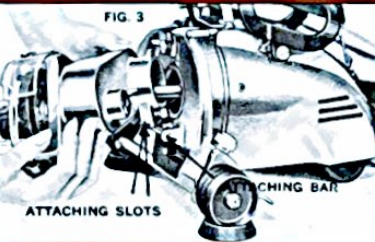

FIG 3
STEP 5: Turn the belt lifter lever to the "ON" position and the unit is ready for operation. Rubber cups, which are provided, should be placed under the front wheels to steady the unit (figure 3). When using the grinding wheel, look through the eye shield part of the transparent grinding wheel cover to help protect your eyes. Safety glasses are recommended when using the wire brush or grinding wheel.
STEP 3. Raise the floodlight hood. Hold the Handi-Butler so the attaching slot is on the attaching bar which is just below the belt drive shaft or motor pulley. (Figure 3) The belt drive shaft should enter
STEP 3: Place attaching slots at back of Rug Nozzle on the attaching bar. (See figures 1 and 2.) Swing nozzle back toward motor unit with a slight downward pressure so as to depress the safety switch slide (see figure 2). Hold nozzle in place with one hand and lock in place with attachment lock lever at top front of motor unit. (See figure 3.)
STEP 4: Turn belt lifter on "ON" position (figure 4). To remove nozzle, reverse these steps. Be sure to have belt lifter in "OFF" position before releasing attachment lock lever. (See figure 3.)